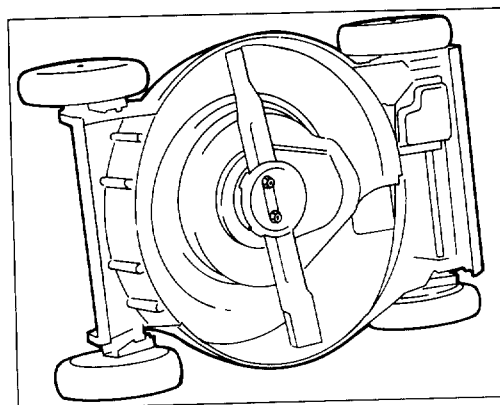

Figure 31
2. Tip mower on its right side (Fig. 31). Avoid rotating blade because starting problems may result.